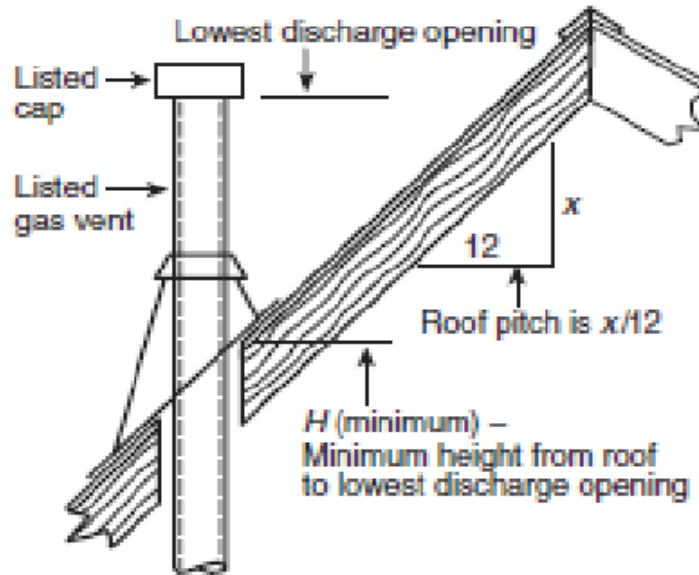

Figure 1. Roof Slope and Pitch
- For double-wall vent pipe and a horizontal distance to any vertical wall or similar obstruction of 8 feet or greater, the vent must terminate above the roof in accordance with Figure 1 and Table 3.
*See Figure 1 . Termination locations for gas vents with listed caps 12" (300 mm) or less in size at least 8" (2.4 meters) from a vertical wall.